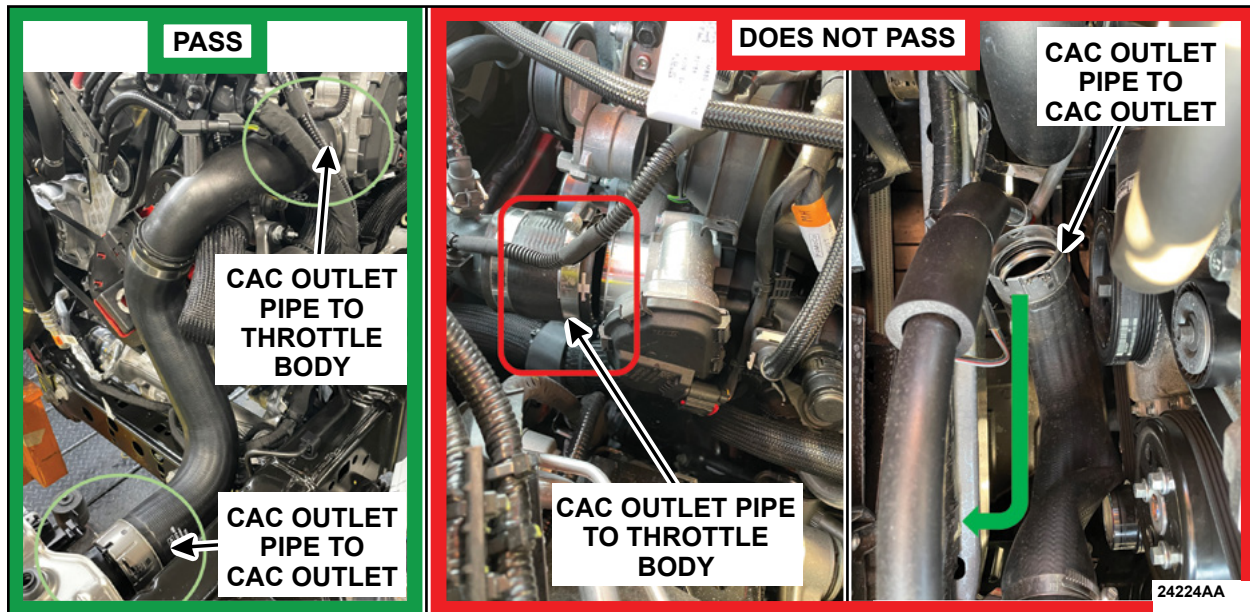

FIGURE 14
21. **For 2.3L Engine Only:** Verify the Charge Air Cooler (CAC) outlet pipe is installed correctly at both the throttle body and CAC outlet. See Figure 14.